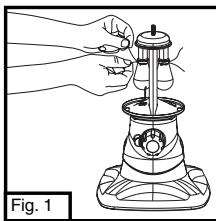

Fig. 1
- If using tie style mantles, tie mantles around grooves in burner. (Fig. 1)